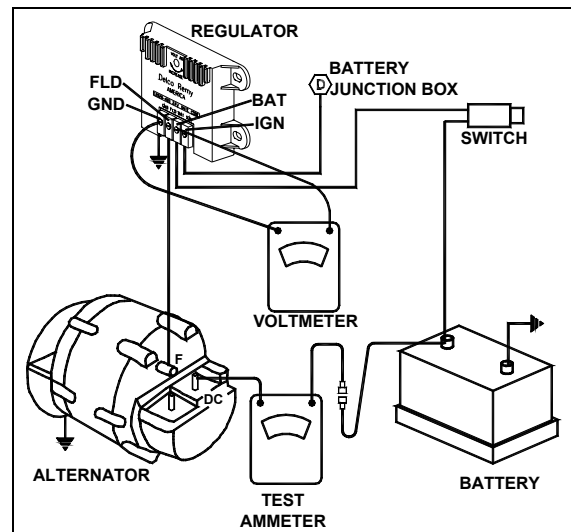

FIGURE 29: REGULATOR VOLTAGE TEST
1. To check the voltage setting, connect a voltmeter across the "POS" and "NEG" terminals on the regulator, and an ammeter to the "C" terminal on the alternator. Refer to figure 29.